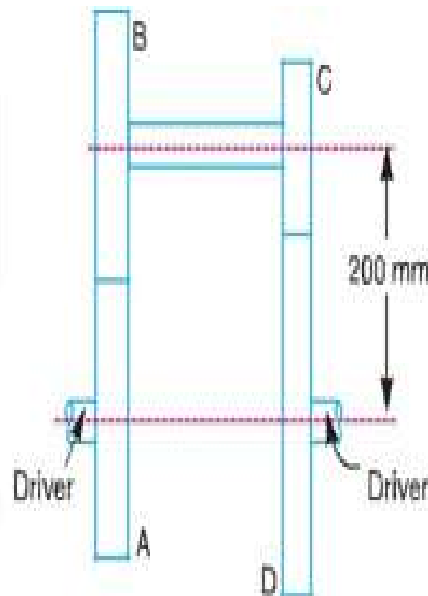

Figure 1
- b) The speed ratio of the reverted gear train, as shown in Figure 1, is to be 12. The module pitch of gears A and B is 3.125 mm and of gears C and D is 2.5 mm. Calculate the suitable numbers of teeth for the gears. No gear is to have less than 24 teeth. (8M)